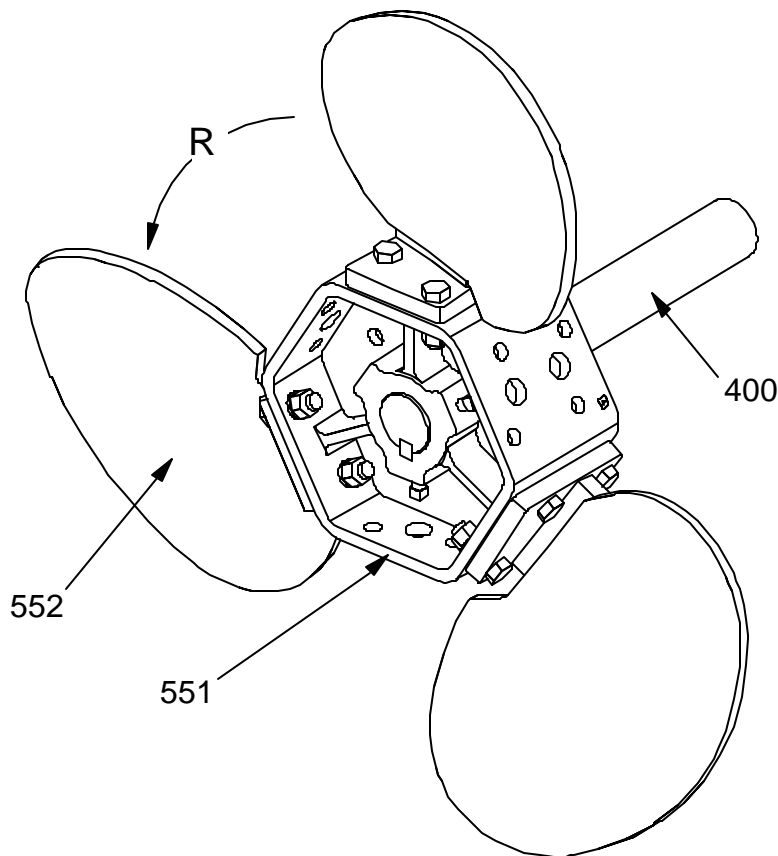

Figure 1 Maxflo Mark II Impeller (Bolted Blade Shown)
Mark II impellers are manufactured with bolted blades for sizes 25A through 87D , and with welded blades for sizes 13A through 23D as they will pass easily through a 24" manway. They are manufactured in both three (3) and six (6) bladed versions. A bolted three (3) blade version is shown below in **Figure 1**